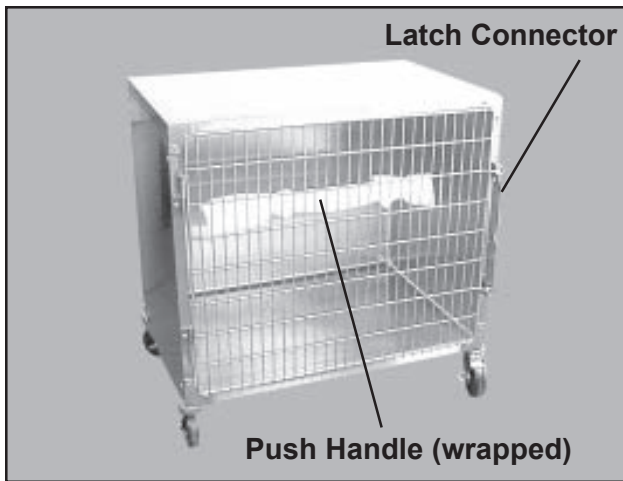

Figure 1. Standard Transport Cage - Parts Supplied
The following parts are included in the shipment (Figure 1):
1. Lift up on the latch connector and open the cage door (Figure 1).